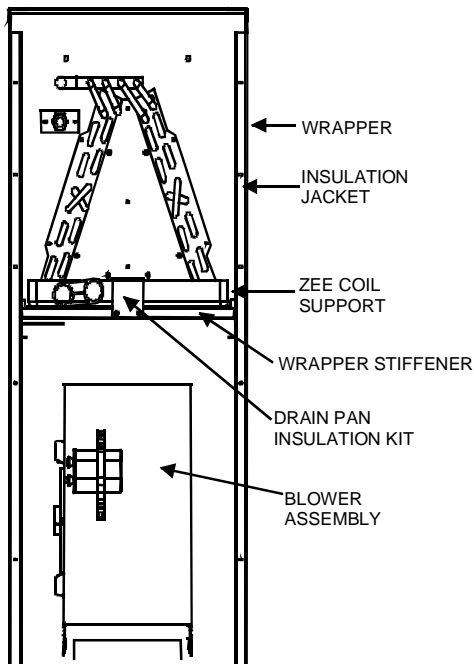

Figure 7
To complete the conversion, slide the evaporator coil into the chassis and attach the three (3) access panels. **(Figure 7)**.